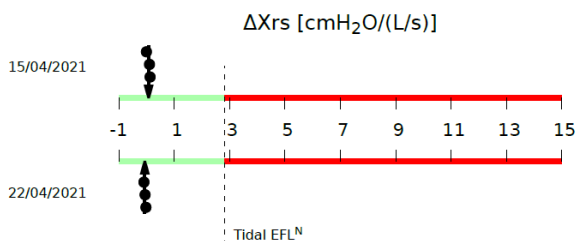

Figure 80 -Expiratory Flow Limitation (EFL) during tidal breathing
- If you used 5 Hz or 5-11-19 Hz stimulating waveform, an additional graph on the bottom of the page is displayed (Figure 80). This graph shows as an arrow the mean and standard deviation of ΔXrs calculated over all the measurements of the session. Black dots represent the mean ΔXrs of individual measurements results. ΔXrs is the difference between the mean inspiratory and the mean expiratory reactance and it is an index of expiratory flow limitation (EFL) during tidal breathing (*Dellacà et al., ERJ, 2004*). A threshold of 2.81 cmH₂O/(L/s) is used to classify a patient as flow limited or non-flow limited during tidal breathing (*Dellacà et al., ERJ, 2004*). If such arrow is in the green part of the graph the patient has no flow limitation during tidal breathing. An arrow in the red part of the graph indicates the presence of EFL.